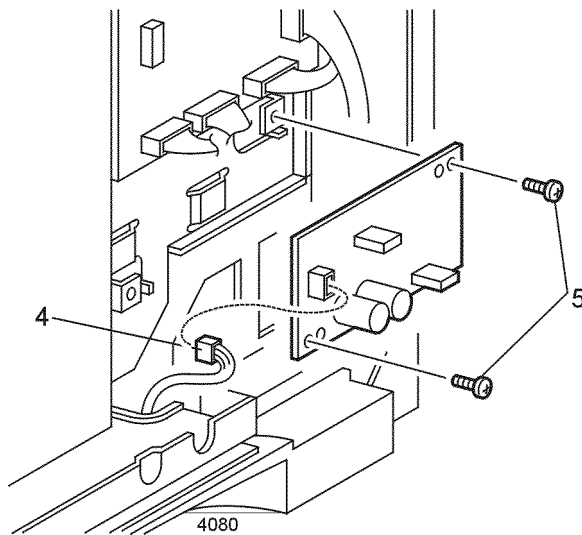

Figure 3 +5 VDC Power Supply
4. Disconnect P/J169 from the +5 VDC power Supply (Figure 3).
5. Remove the two screws that secure the +5 VDC Power Supply (Figure 3). Remove the Power Supply.